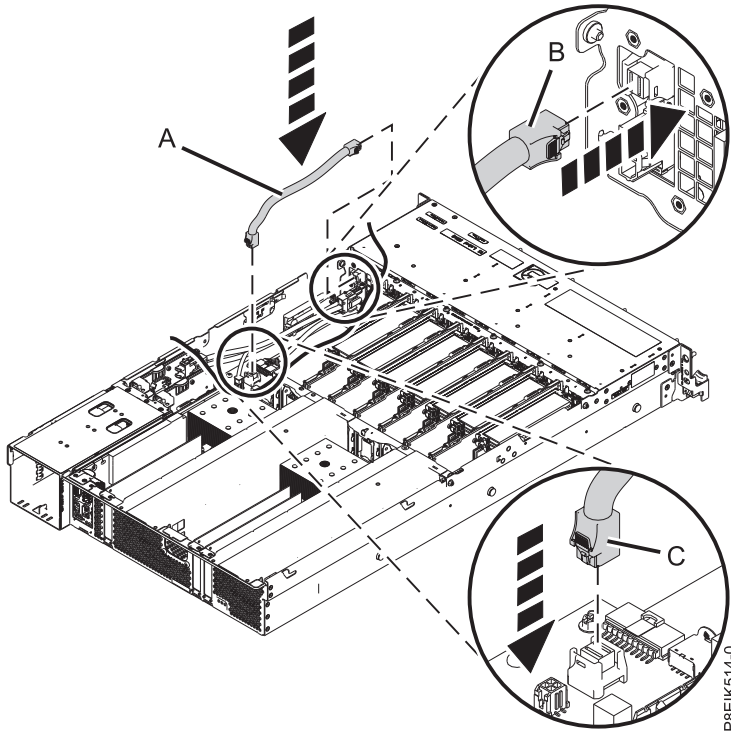

Figure 56. Replacing the disk and fan signal cable
2. Using the labels, connect the disk and fan signal cable (A) to the disk drive and fan card (B) and to the system backplane (C). Ensure that the cable latch clip snaps into place on the connectors. See Figure 56 on page 46.